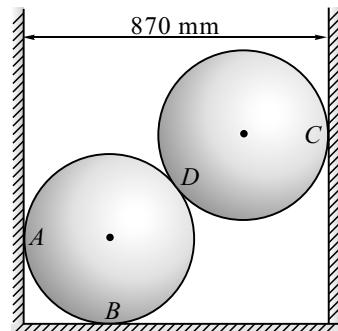

Fig. 3.E11
12. Two smooth cylinder with diameters 250 mm and 400 mm respectively are kept in a groove with slanting surfaces, making angles 60° and 30° respectively as shown in Fig. 3.E12. Determine the reactions at contact points *A*, *B*, and *C*.